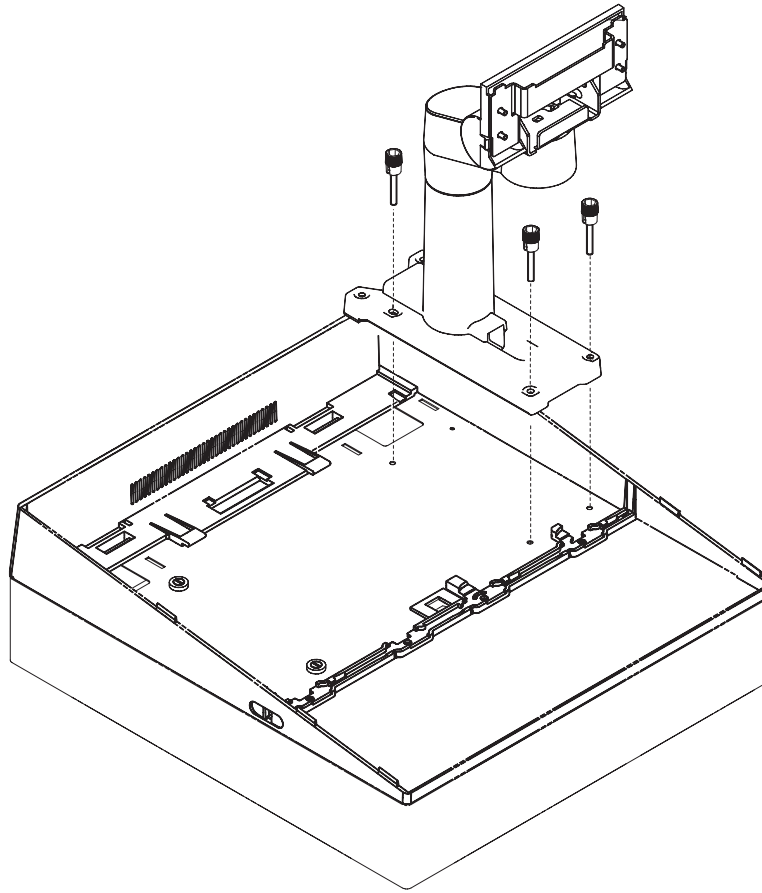

Figure 2-25. Securing the arm assembly to the 4694
5. Place the arm assembly on the stiffening plate as shown in Figure 2-25. Insert and tighten the three thumb screws as shown.